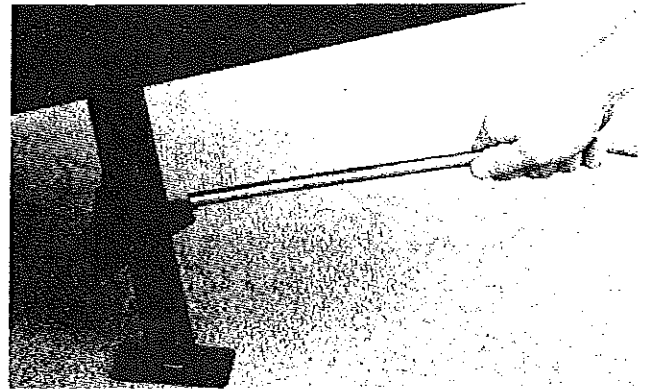

FIGURE 38
29. Press on the quick-release lever of the stabilizer jack with the jack handle and push downward slowly. This releases the stabilizer jack and the corner of the trailer will drop somewhat. See Figure 38.